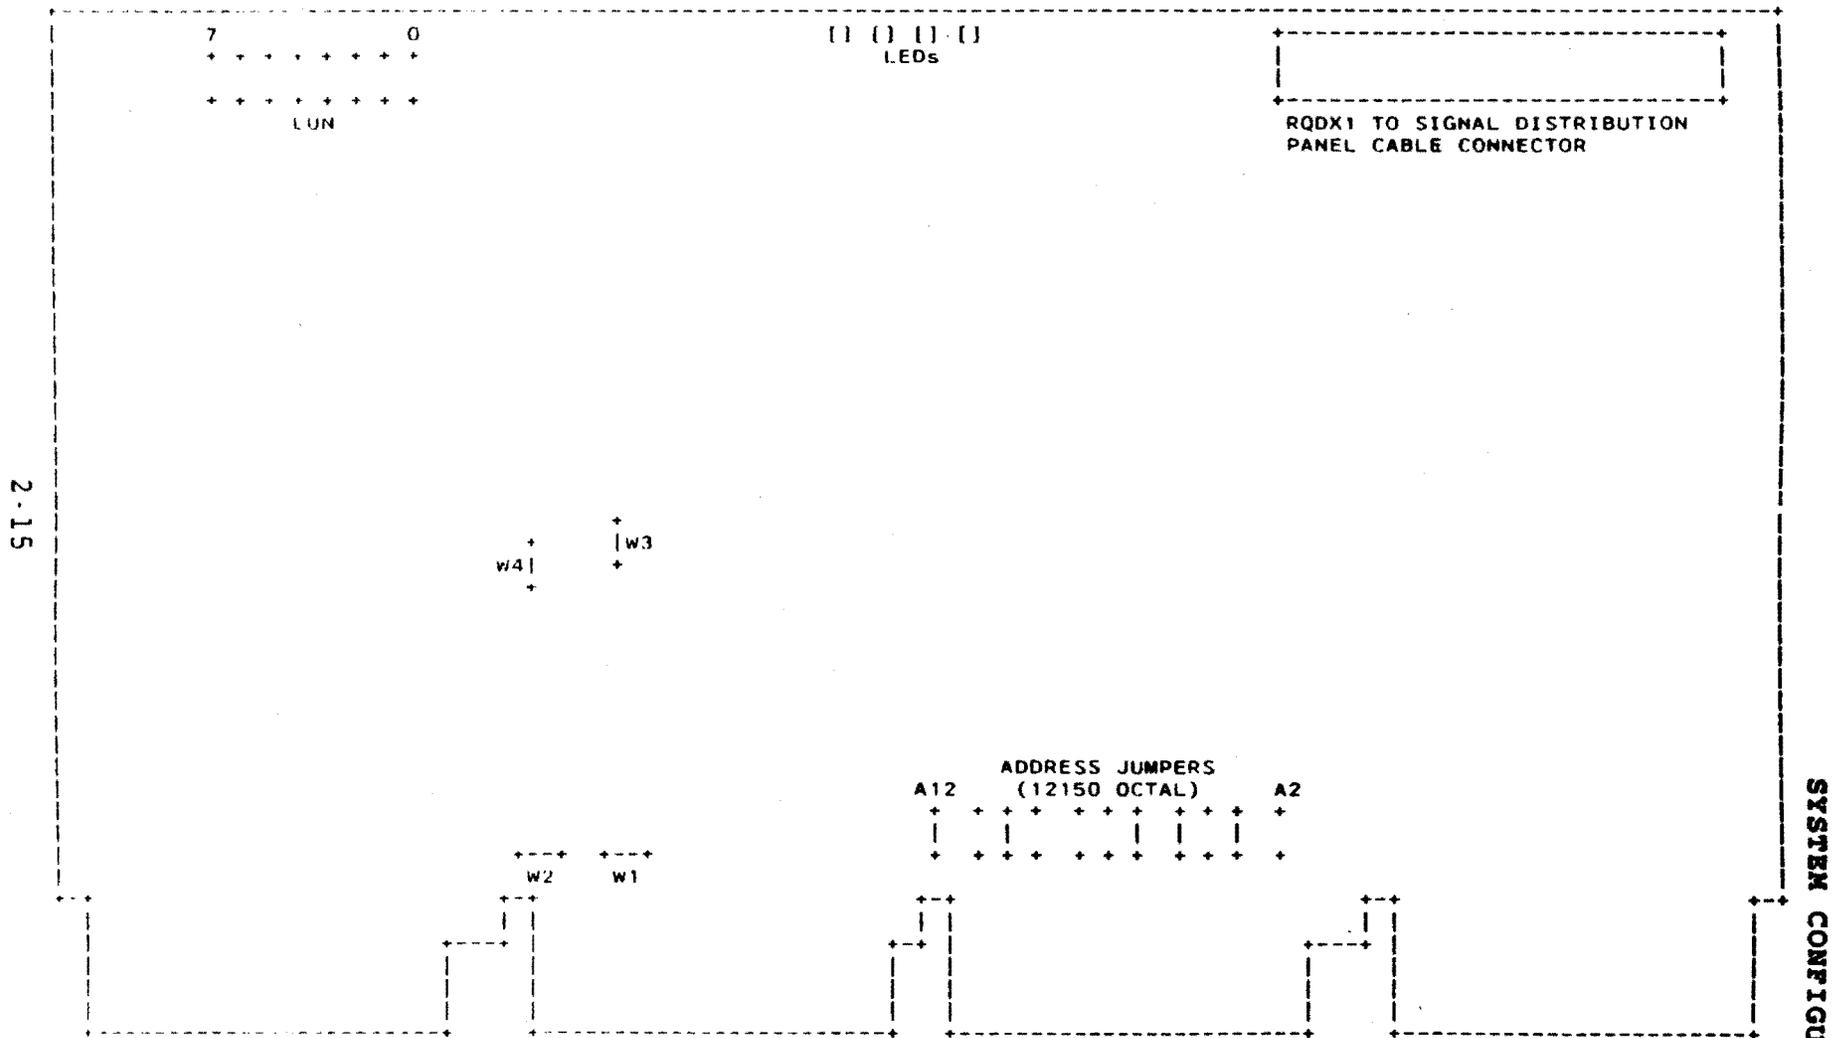

Figure 2-5: RQDX1 Jumpers
The RQDX1 (Part Number M8639) provides the interface between the Q22-bus and the disk and diskette drives (Figure 2-5). It communicates with the drives using MSCP (mass storage control protocol). The RQDX1 is a block-mode DMA (direct memory access) device.
**2.5.1.1 Jumpers** - As Figure 2-5 shows, the RQDX1 contains three sets of jumpers. The jumpers are shown in their factory-set configuration. W1 through W4 are for manufacturing use only. The LUN (logical unit number) is set to LUN 0; that is jumpers LUN7 through LUN0 are all out. The device address is set to 772150 (octal); that is jumpers A12, A10, A6, A5, and A3 are in (see Table 2-6).